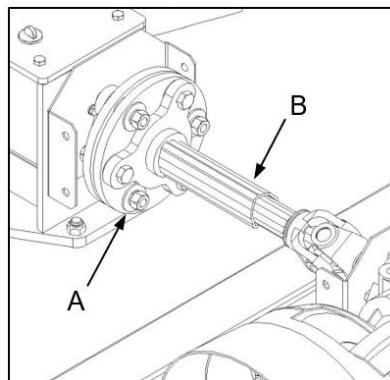

Fig. 6
- ✔ Inspect the rubber diaphragm couplings (Fig. 6-A) and replace those which display evidence of distortion, splitting or cracking.
- ✔ Check telescopic tubes (Fig. 6-B) for indications of wear, distortion, or splitting. If replacement is necessary, replace BOTH halves of the telescopic joint.
- ✔ Inspekteer die rubber diafragma-koppeling (Fig. 6-A) en vervang dié wat tekens van vervorming, skeuring of krake toon.
- ✔ Gaan teleskopiese buise (Fig. 6-B) na vir enige tekens van slytasie, vervorming of skeuring. Indien vervanging nodig is, vervang BEIDE helftes van die teleskopiese gewrig.